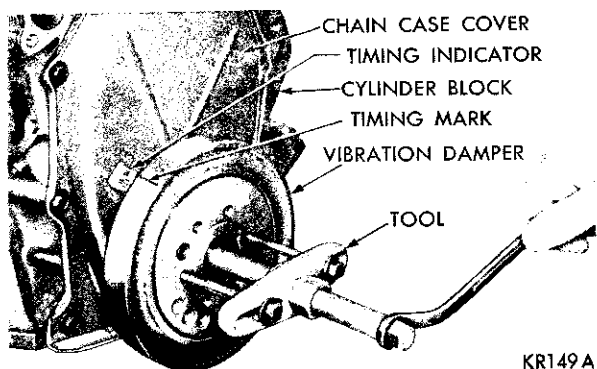

Fig. 19—Removing Vibration Damper Assembly Using Tool C-3688
(1) Drain the cooling system and remove the radiator and water pump assembly.
(2) Remove the crankshaft vibration damper attaching bolt.
(3) Remove two of the pulley bolts, install Tool C-3688, and pull the damper assembly off the end of crankshaft, as shown in Figure 19.
(4) Remove the chain cover and gasket.
(5) Slide the crankshaft oil slinger off the end of the crankshaft.